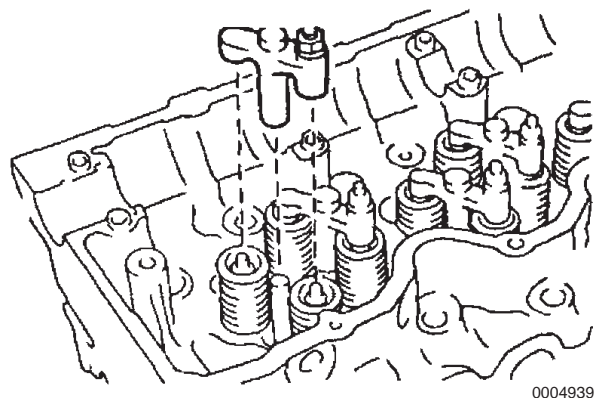

Figure 5-14
1. Remove the valve bridge (**Figure 5-14**).